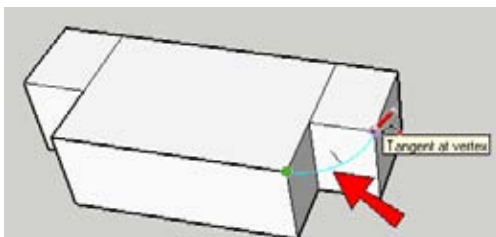

Figure 2-86
6. Next, make an arc tangent to the line you created in the previous step, ending at the smaller box, as shown in Figure 2-86. (The preview color of a tangent arc is cyan.)